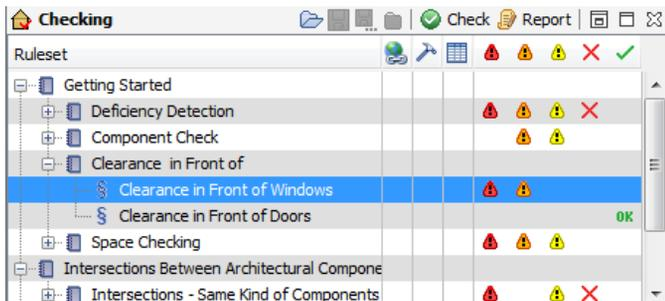

Figure 60 Clearance in Front of Windows rule
- (1) Open the "Clearance in Front of" branch in the **Checking Tree Table** and also the next level "Clearance in Front of Windows" (see Figure 60).